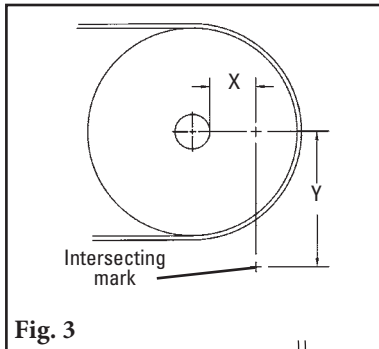

Fig. 3
5. **Determine Y dimension.** From the X mark, draw a line vertically down to the selected Y dimension and make a mark (Fig. 3). This is the correct position for the center of the pole.